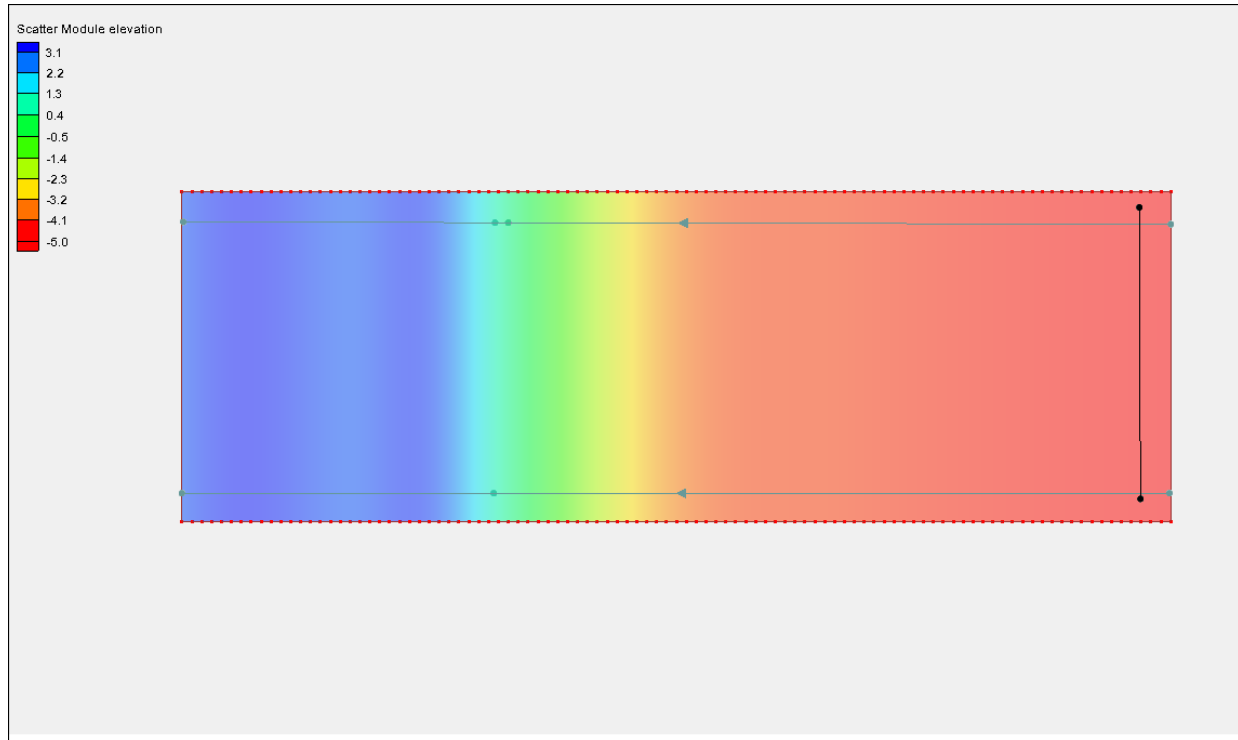

Figure 6 Wave maker arc.
3. Click out an arc crossing the profiles in the offshore region to define the wave maker location. (see Figure 6)